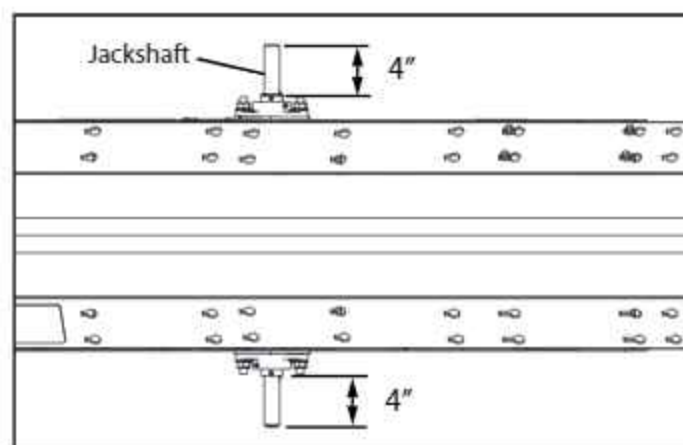

FIG. 3-54. Jackshaft Positioning
2. Slide the Jackshaft through the bearings and position it so there is an equal amount of shaft sticking through each bearing. See Fig. 3-54.